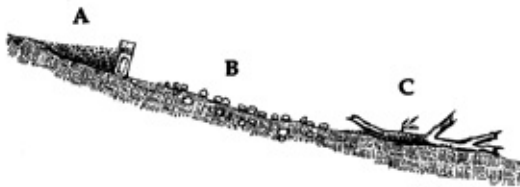

Figure 1. Sheet erosion leaves visible marks.
Although not as spectacular as rills and gullies, sheet erosion does leave visible marks, as shown in Figure 1: soil collecting behind obstructions on a slope (such as the brick in example A); stones left behind by the runoff because they were too heavy to be carried away (B); and molded forms on the soil and other debris trapped under branches, twigs, or even clumps of straw (C). The reality of sheet erosion's effects appears in Photo 1.